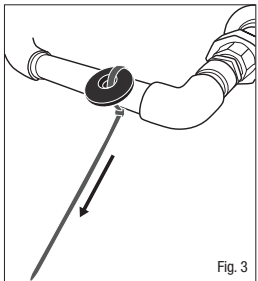

Fig. 3
- Secure the cable tie by threading the flat end through the self locking head and snug the tie to the equipment (See Fig. 3).